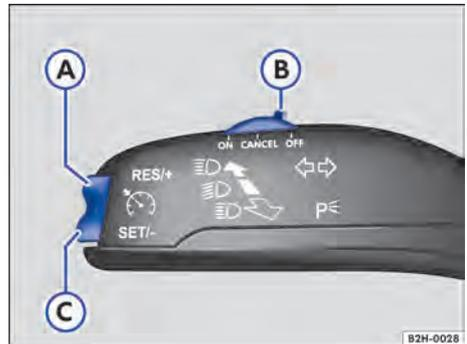

Fig. 115 On the left-hand side of the steering column: switch and buttons for operating the cruise control system.
- Move switch → **Fig. 115 B** to position **ON**.
- While driving, press the **SET/-** → **Fig. 115 C** button.
- + 1 km/h (1 mph):** Briefly press the **RES/+** → **Fig. 115 A** button.
→ Fig. 115 **C** button.
1. Move switch → Fig. 115 **B** to **CANCEL** position.
1. Press the **RES/+** button → Fig. 115 **A**.
1. Move switch → Fig. 115 **B** to position **OFF**.